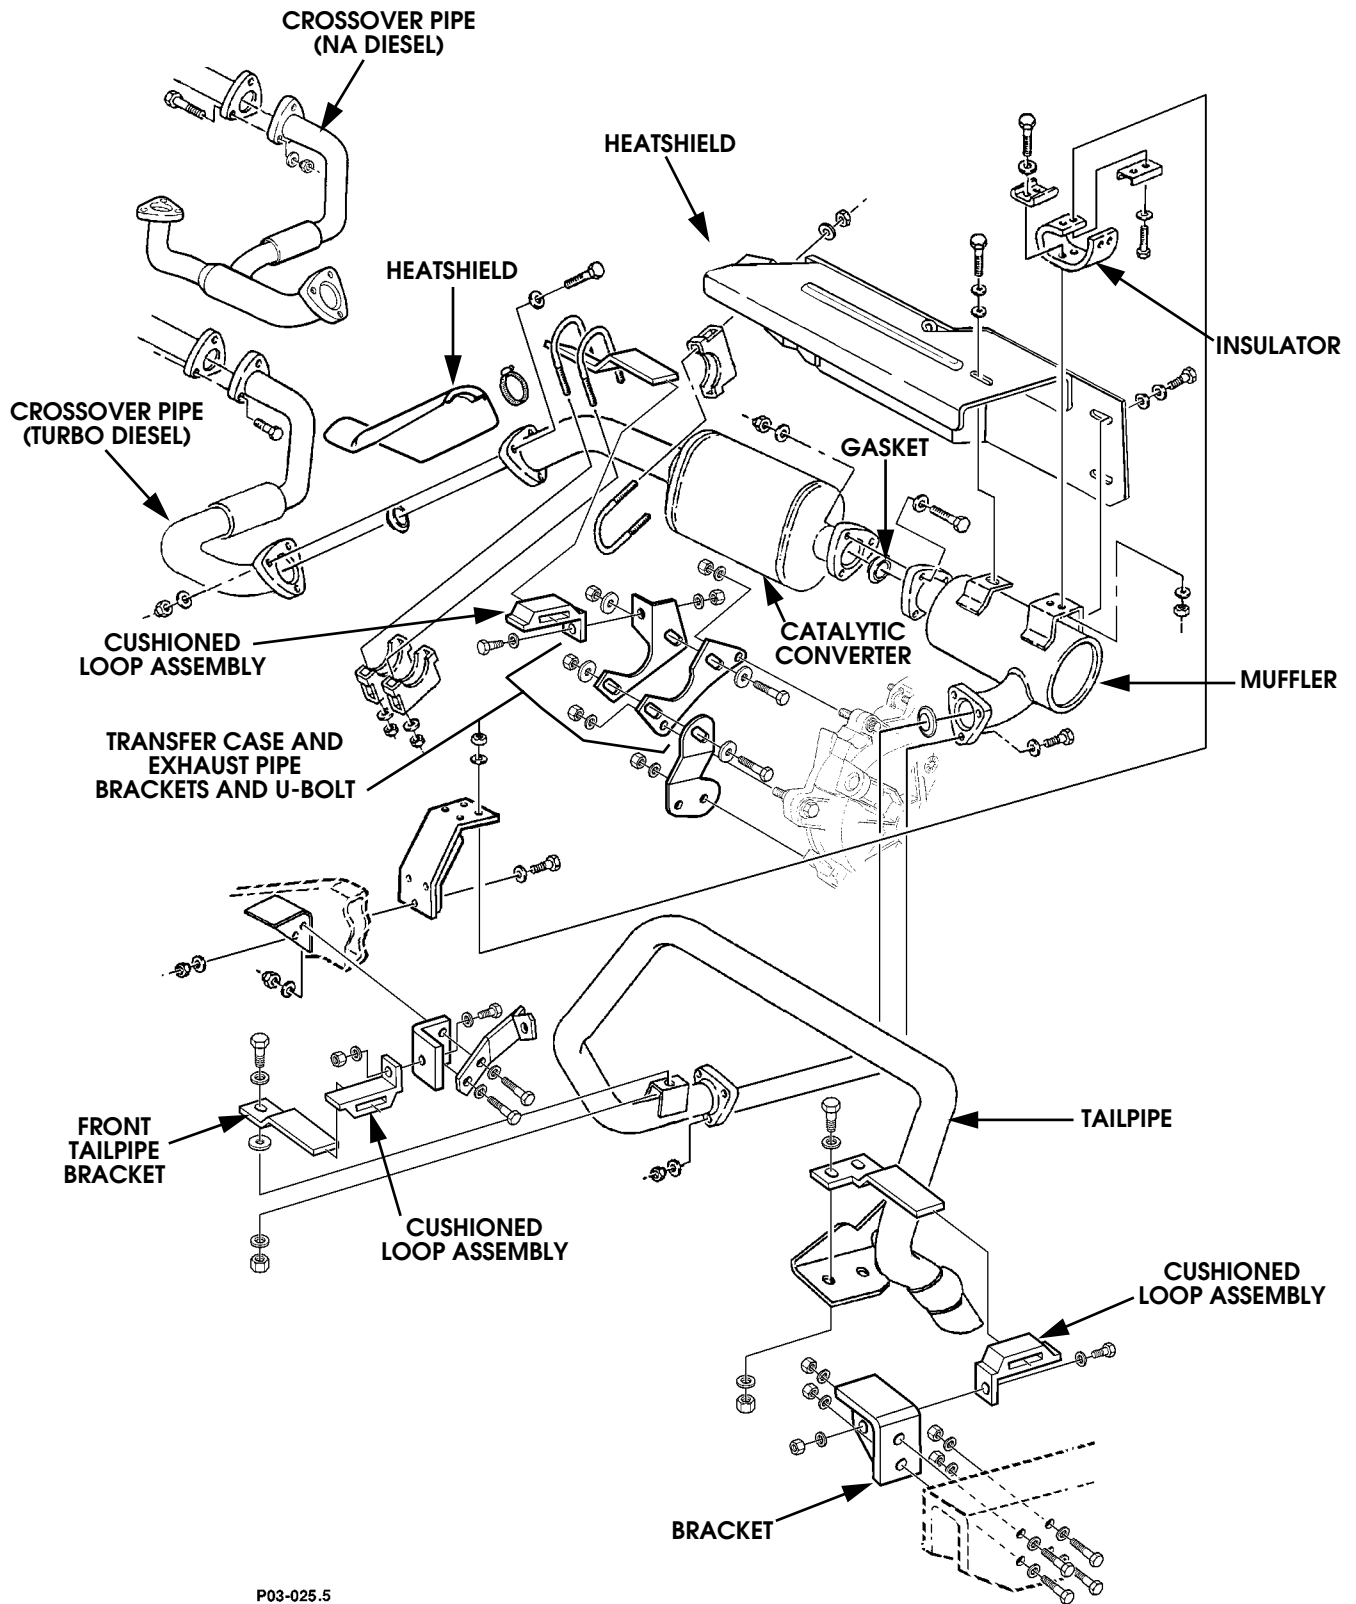

Figure 3-81: Exhaust System
1. Loosen or remove necessary frame brackets and clamps that retain converter and pipe (Figures 3-81 and 3-82).